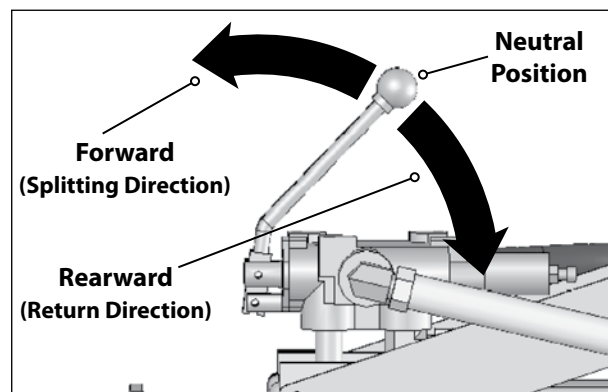

Figure 17
4. Move control lever forward to extend the hydraulic cylinder all the way. (It is normal for the cylinder to not move smoothly as it purges the air from the system.) **SEE FIGURE 17 AND/OR 18.**
5. Move control lever to the return position until ram is retracted fully. **SEE FIGURE 17 AND/OR 18.**
With the correct amount of hydraulic fluid in the system, operate the cylinder ram all the way into the forward direction and all the way in the return direction. **SEE FIGURE 17 AND/OR 18.** Check that the ram moves smoothly without jerking. Check that there is no leaking of fluids at component ports, fittings, or hoses. If leaking is found, tighten fittings or clamps until leaking goes away. If leaking doesn't go away, contact Ardisam Customer Service (800-345-6007 M-F 8:00-5:00 PM CST, or e-mail [info@ardisam.com](mailto:info@ardisam.com)).
**SEE FIGURE 17 AND/OR 18**